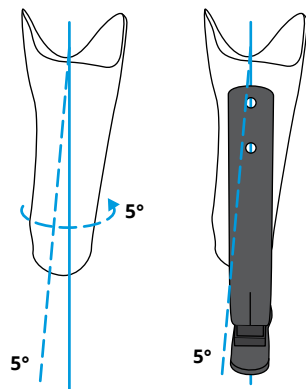

Figure 1
5. Observe the rotation of the foot, pylon M/L angle (lean) and pylon M/L position (inset) on the current prosthesis and approximate this position on the new socket by drawing a vertical line on the posterior of the new socket. (Figure 1)
6. Remove the bolts from the mounting plate and use the bolt holes as "sights" to line up the mounting plate. When choosing height for the mounting plate (except for Aeris Activity, which has a fixed height), place it as proximal as possible, but be sure to leave enough room below the posterior socket brim to allow a suspension sleeve to seal if using vacuum or suction suspension plus ½ in. to accommodate height adjustment if needed. (Figure 1)